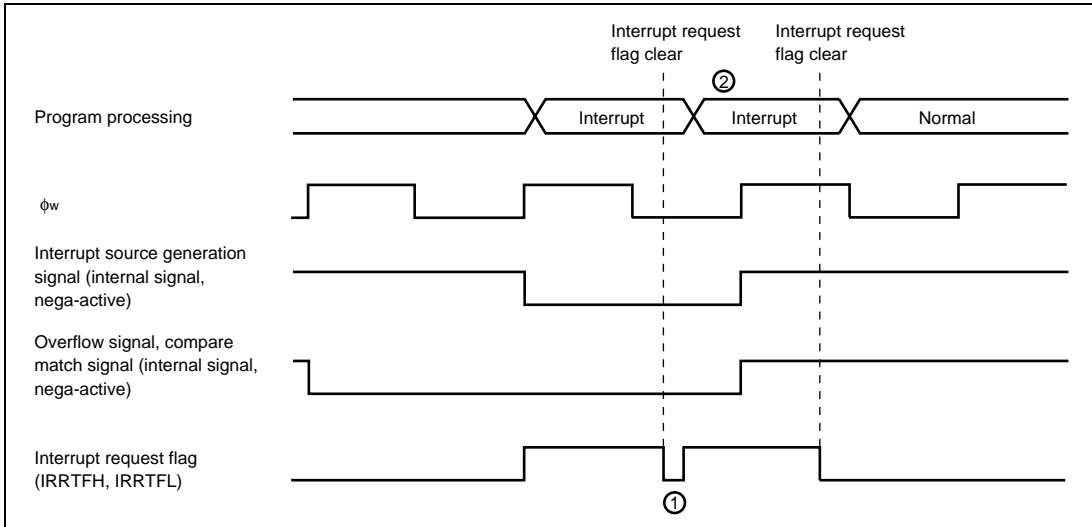

Figure 9.6 Clear Interrupt Request Flag when Interrupt Source Generation Signal is Valid
Clear Timer FH, Timer FL Interrupt Request Flags (IRRTFH, IRRTFL), Timer Overflow Flags H, L (OVFH, OVFL), and Compare Match Flags H, L (CMFH, CMFL): When $\phi_W/4$ is selected as the internal clock, “Interrupt source generation signal” will be operated with ϕ_W and the signal will be outputted with ϕ_W width. And, “Overflow signal” and “Compare match signal” are controlled with 2 cycles of ϕ_W signals. Those signals are outputted with 2 cycles width of ϕ_W (figure 9.6)
In active (high-speed, medium-speed) mode, even if you cleared interrupt request flag during the term of validity of “Interrupt source generation signal”, same interrupt request flag is set. (1 in figure 9.6) And, the timer overflow flag and compare match flag cannot be cleared during the term of validity of “Overflow signal” and “Compare match signal”.
For interrupt request flag is set right after interrupt request is cleared, interrupt process to one time timer FH, timer FL interrupt might be repeated. (2 in figure 9.6) Therefore, to definitely clear interrupt request flag in active (high-speed, medium-speed) mode, clear should be processed after the time that calculated with below (1) formula. And, to definitely clear timer overflow flag and compare match flag, clear should be processed after read timer control status register F (TCSR F) after the time that calculated with below (1) formula.